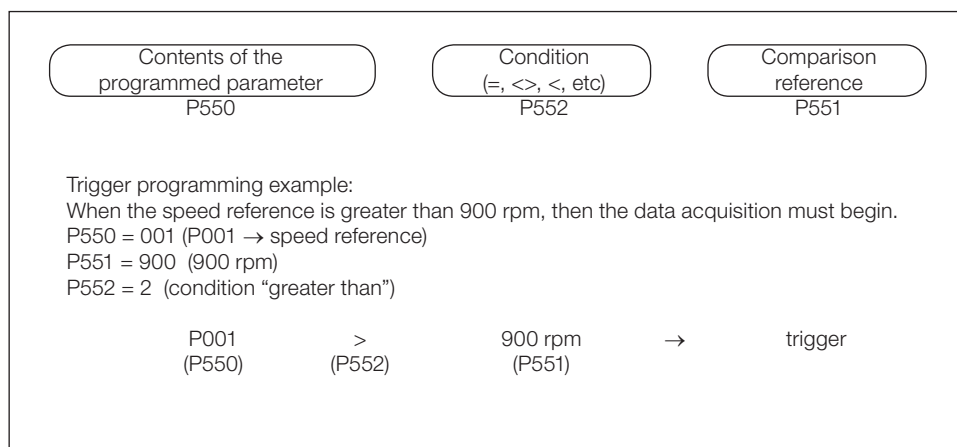

Figure 12.1: Trigger programming example
- The trigger can be programmed in several manners. Any MVW-01 available parameter can be used as trigger, and this parameter is programmed in P550. The value of the parameter programmed in P550 is compared to a reference set by the user in the parameter P551. The type of comparison between the parameter and the reference is established programming P552 and can be =, <>, >, <, inverter fault or binary selection ⁽¹⁾ (or bit mask). When the comparison condition is fulfilled, the storage of the trace channels is triggered (refer to the Figure 12.1 on page 12-1).